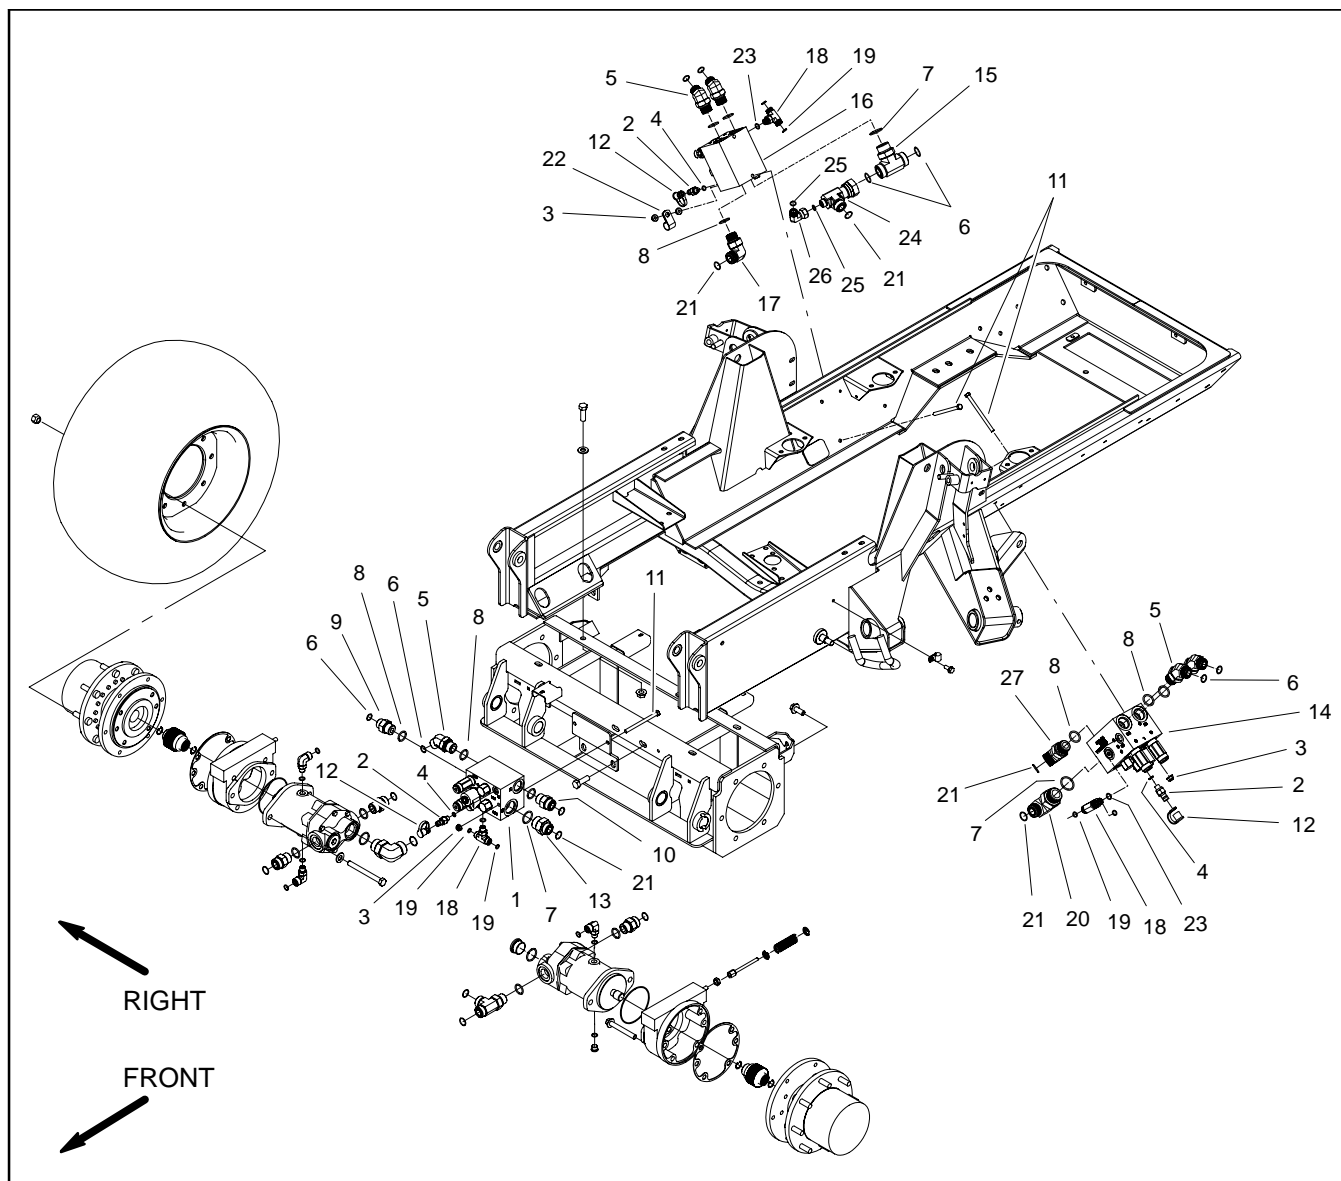

Figure 106
**Removal (Fig. 106)**
5. Remove PTO manifold from the frame using Figure 106 as a guide.
**Installation (Fig. 106)**
2. Install PTO manifold to the frame using Figure 106 as a guide.